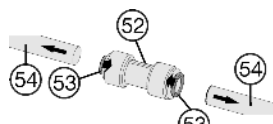

Fig. 14\*
- Remove the connector Fig. 14 (52) from the hose ends: Press the dark gray clip Fig. 14 (53) into the connector while at the same time pulling out the hose Fig. 14 (54).\*